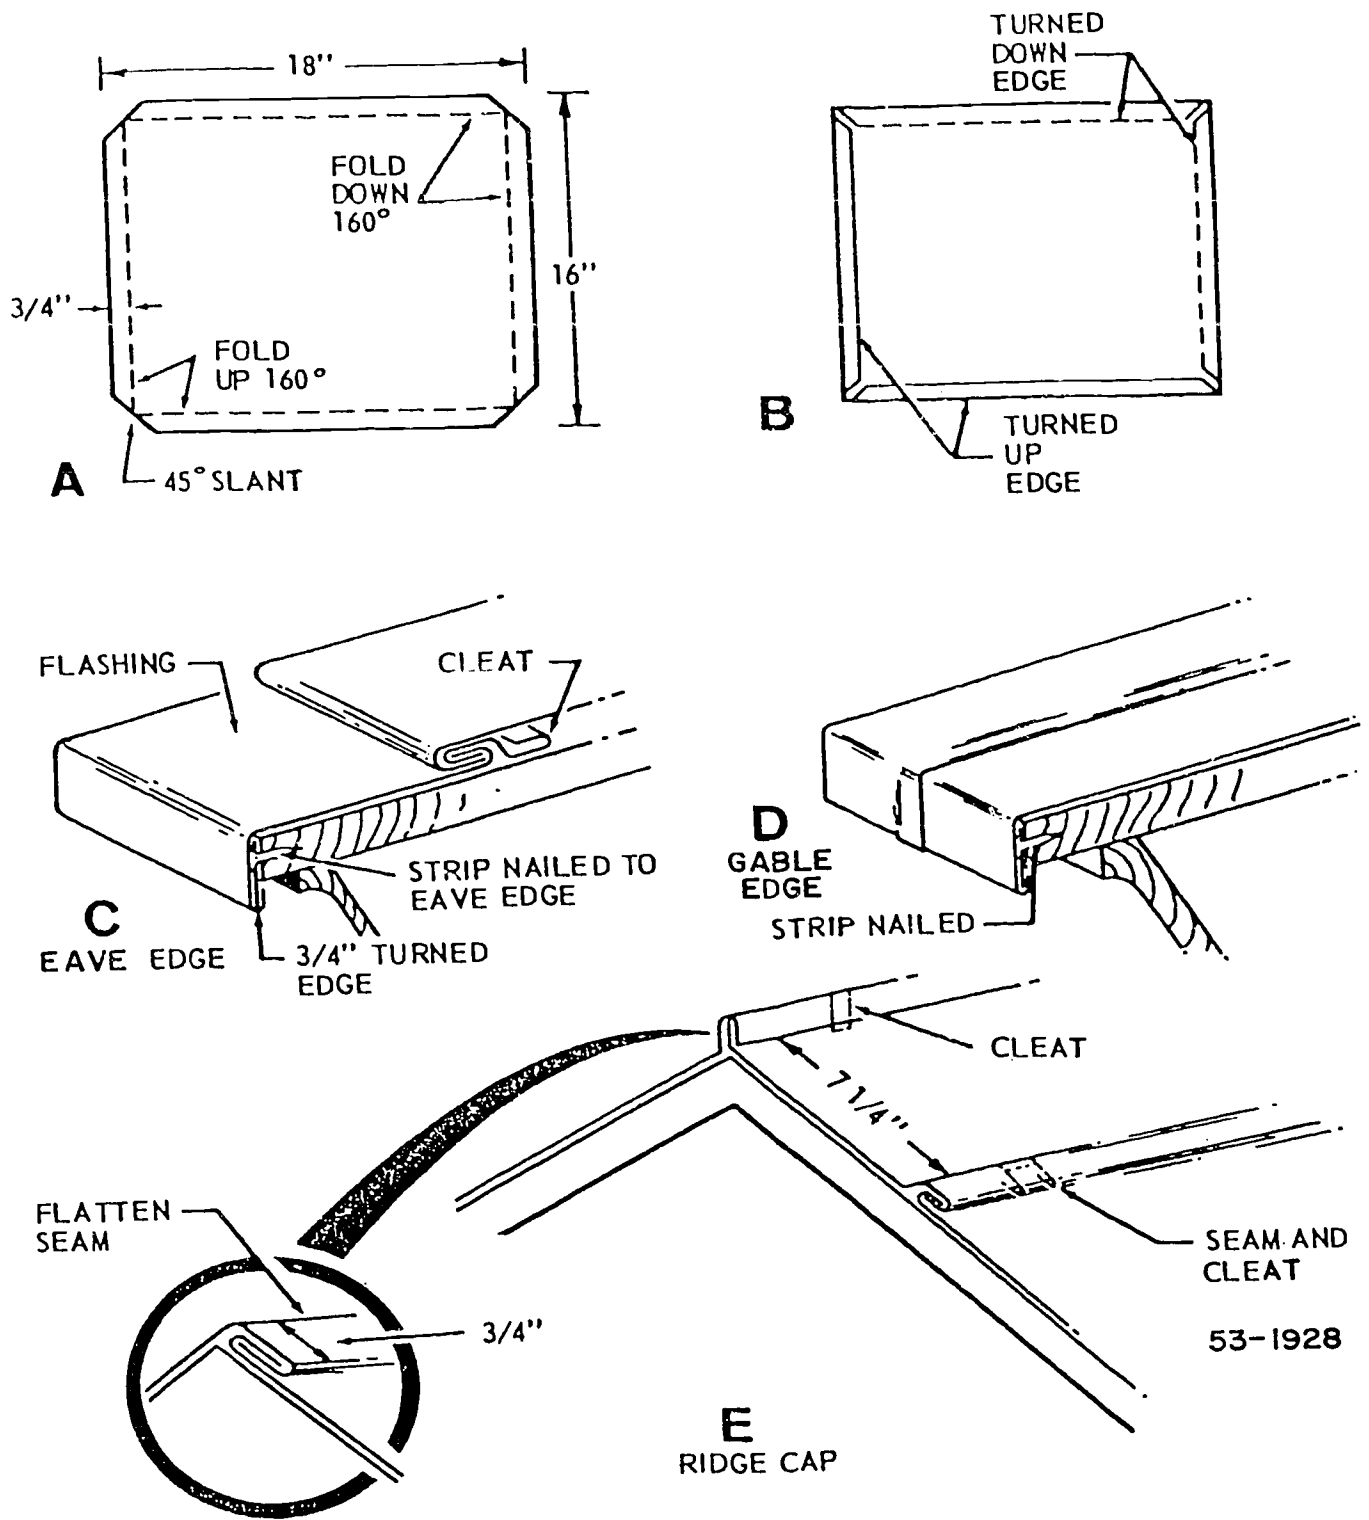

Figure 3-13. Grooved (flat) seams used with metal roofing.
roof shown in figure 3-4 is installed with flat seams and cleats. When cutting and notching, make sure that you get a good notch; otherwise, a good solder joint will be hard to make. A good notch is shown in view A of figure 3-13. It looks like view B after the edges are turned. Notice that two edges are turned up and two are turned down. This allows the "down" edges to be hooked over the "up" edges, as shown in figure 3-4.
When laying a flat seam, nail the eave and gable strips as shown in views C and D of figure 3-13. Install the flashing for the eave with cleats and a continuous strip, as shown in view C. Do not nail the flashing to the roof deck. Notice that a  $\frac{3}{4}$ -inch pocket is turned over the strip. After the eave flashing is installed, insert the flat sheet into the pockets of the flashing with two edges turned down. View D shows the gable edge. Lap the sheet and grooved (flat) seam over the gable, and a  $\frac{3}{4}$ -inch pocket is turned. When covered this way, the roof deck eaves and gables are sealed from moisture.
When the flat sheets are installed on a roof, as shown in figure 3-4, make sure that the cleats are spaced correctly and that the seams are well grooved. Flatten them with a mallet and set the grooves with a hand groover. Cover the entire roof to within  $7\frac{1}{4}$  inches of the ridge (view E of fig. 3-13). The ridge cap can be cut and formed in the shop, with squaring shears and a cornice brake. Make the ridge cap in two halves: one half with the allowance for a standing seam pocket and the other half with a flange. The other edges of both halves are turned down for a groove (flat) seam.
Fasten the roof cap to the roof deck with cleats. Insert the grooved (flat) seam edges of the ridge cap halves into the pockets of the roofing sheets, and flatten the seams. Using a double seamer, turn and flatten the pocket for the standing seam on the ridge in the same way as for the seam shown in figure 3-3. However, you must use a conventional seamer and a mallet to fold the seam completely over in (view E of fig. 3-13).
**Gable flashing.** Gable flashing is used to seal the edge of a roof at the gable. In view B of figure 3-12, the flashing is formed over the edge of the gable. Notice how a drip edge is turned on the top part of the flashing so that water will be discharged into the valley of the corrugated roof. The bottom edge is formed into a pocket to join the wall flashing. This completely seals the gable edge from moisture. In view D of figure 3-13, you can see how the gable flashing is fastened to the roof with a metal strip. The flashing is formed over the strip so that the flashing is fastened at the bottom.
**Eave flashing.** Eave flashing, such as that shown in view C of figure 3-13, is used to seal the eaves of roofs. Gable and eave flashings are used on most roofs, including asphalt shingle, built-up asphalt, tar and gravel, and metal. (The working drawings should specify how the eave flashing is to be made.)